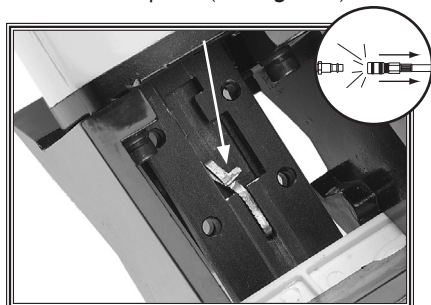

Figure 5. Jammed nail in discharge area.
5. Remove the jammed nail from inside the discharge area with a pair of need nose pliers (see **Figure 5**).